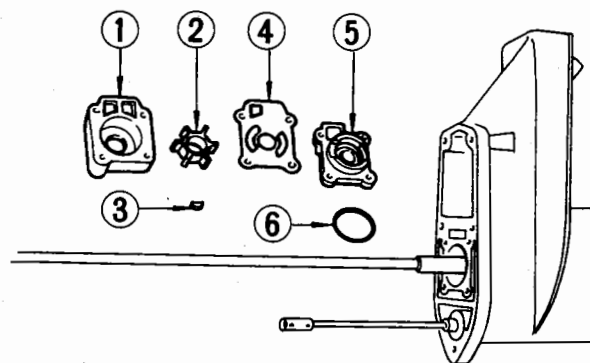

Fig. 62 Water pump component parts
- 1) Remove the water pump case installing bolts (H652-4). (Fig. 62)